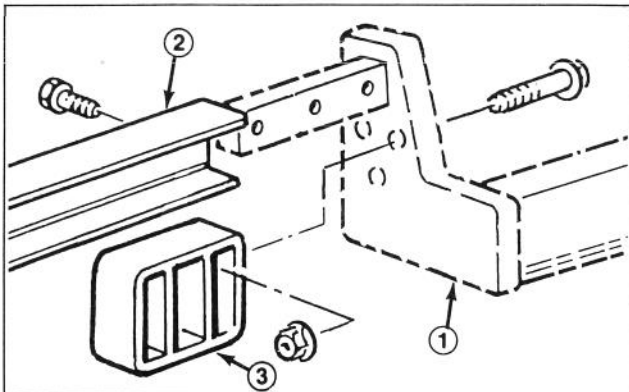

Figure 2
2. Mount a rear cradle to each lift arm with (3) 3/8 - 16 x 1-3/4" cap screws and flange nuts as shown in Figure 2. Torque fasteners to 20-25 ft-lb.
3. Slide carrier frame onto lift arms aligning mounting holes. Secure each side of carrier frame to lift arms with (3) 1/2 - 13 x 1-1/2" lg. cap screws. Torque cap screws to 70-80 ft-lb. (Fig. 2).